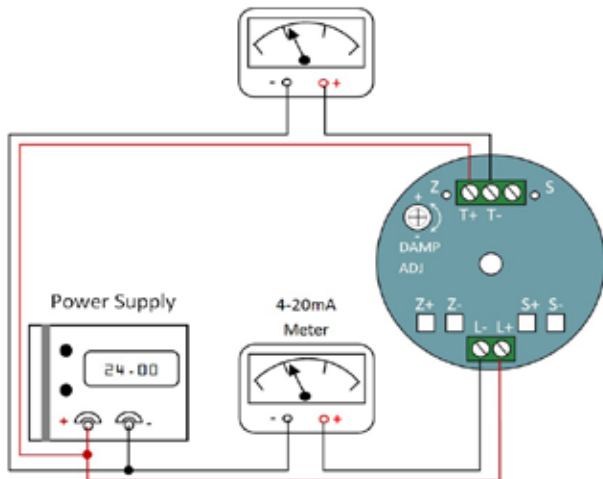

Fig. 3
The NRF comes complete with the transmitter mounted in an enclosure, fitting and probe (Fig. 1). Micro-processor based electronics are protected and potted within a metal housing. Calibration is made via four push buttons (Fig. 3) as explained later. Variety of options including Stainless or PVC housings, rigid or flexible probes (bare or jacketed), NPT, sanitary or flange connections are available.
5. Connect positive supply wires to the positive terminal of the transmitters. See Fig. 3.